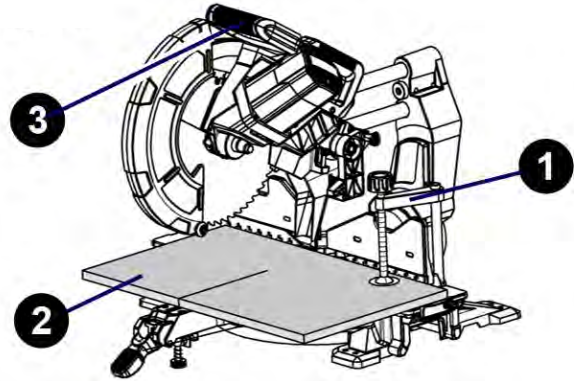

Fig. 15: Sawing wide panels
Step 3: Secure the workpiece (Pos. 2, Fig. 15) with a workpiece clamp (item 1, Fig. 15).
Step 4: Grasp the gear lever (Pos. 3, Fig. 15) and pull it forward until the center of the saw blade is over the front of the workpiece.